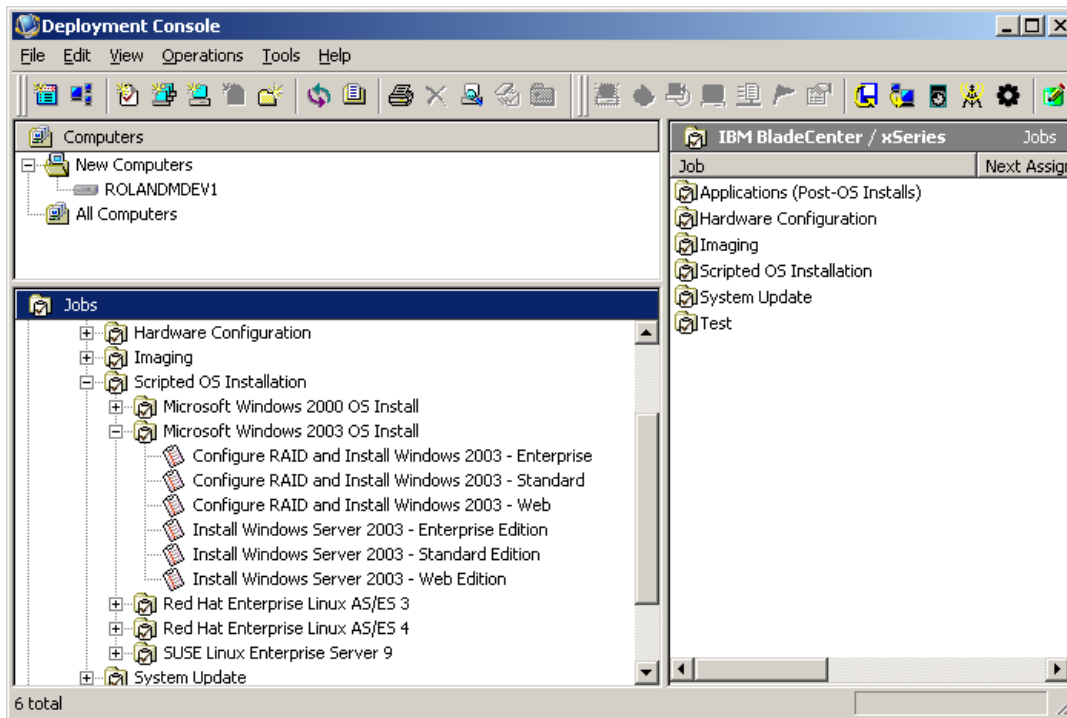

Figure 5-5 Deployment Console with the Microsoft Windows 2003 Scripted OS install jobs
2. In the Jobs pane, explore to the following folder: IBM ServerGuide Scripting Toolkit - *version (release_date)* → IBM BladeCenter / xSeries / eServer Support → Scripted OS Installation as shown in Figure 5-5 on page 146. In this folder are a number of other folders that contain the jobs for each version of supported operating systems.